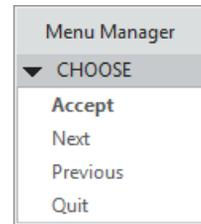

Figure 3-23 The Menu Manager
- If you select two chained entities of a loop with the **Chain** radio button selected; the **Menu Manager** will be displayed, refer to Figure 3-23. Choose the **Next** or **Previous** option to highlight the entities creating the loop. Next, choose the **Accept** option from the **Menu Manager** to select the highlighted entities and specify the offset value in the **Enter offset in the direction of the arrow [Quit]** edit box to create the offset of selected entities.